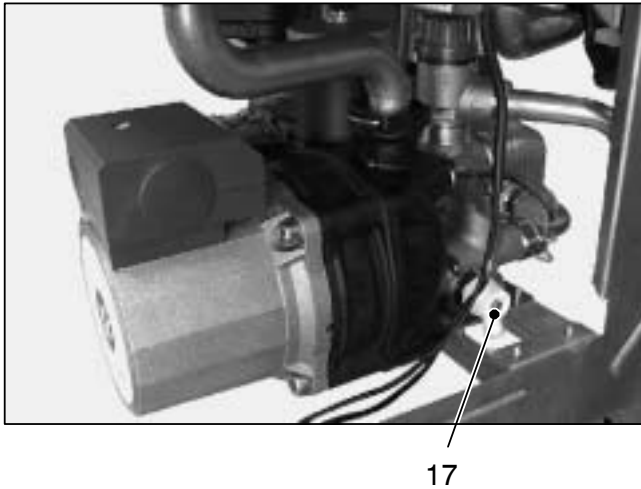

Fig. 9.4
- 2 Open the central heating drain cock (17 in Fig. 9.4).